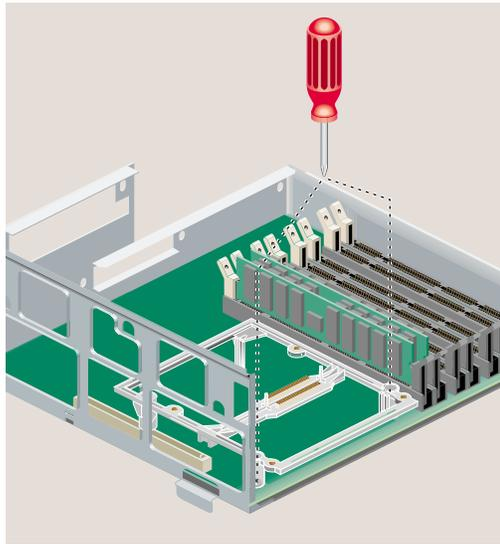

Figure 9 Installing the New CPU Support in the System Module
12. Insert the new CPU support in the system module as shown in Figure 9. The new CPU support can be distinguished from its predecessor by its gray color or by the part number 050-0347-002 embellished on it.